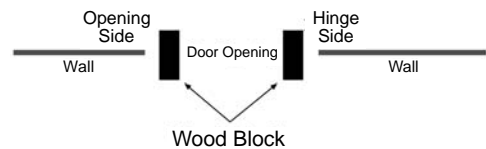

Figure 2
- B. Set the Wood Blocks as shown in Figure 2, with the Wood Blocks positioned in the doorway so that the Wardrobe Door (#1) can set securely on them.